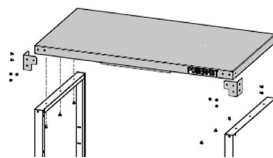

Figure 3.
4. Attach the top panel (#9) onto side panels with M4 x 10 screws (#8). Install the corner connectors 1 and 2 (#10, 11) onto the corners with M4 x 10 screws (#8). The three bolt holes on each face the front (Fig 3).